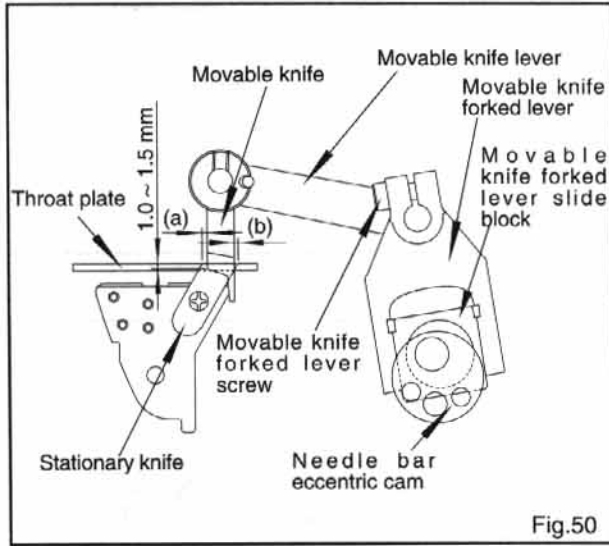
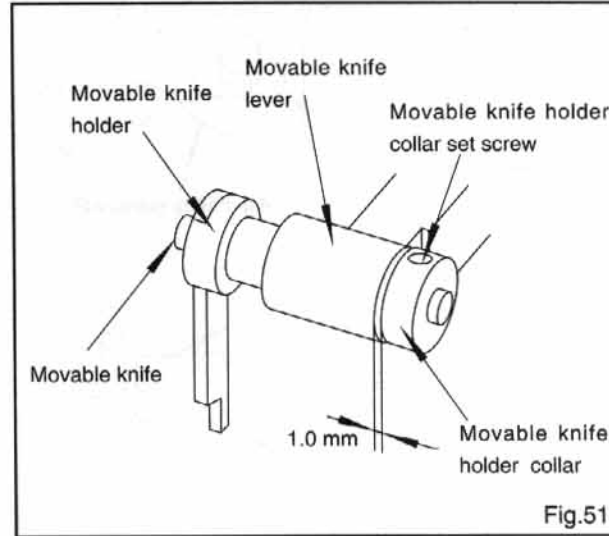

Fig.50
Fig.51
- With movable knife lever at its lowest position, adjust engagement of movable knife and stationary knife to 1.0 ~ 1.5mm and tighten movable knife forked lever screw temporarily. ( Fig. 50 )
- To adjust the angle, loosen movable knife holder collar set screw and turn movable knife holder so that movable knife is located centrally in relation to stationary knife (a=b, Fig. 50), and tighten the set screw making sure there is 1.0mm clearance between right end of movable knife lever as shown in Fig. 51.